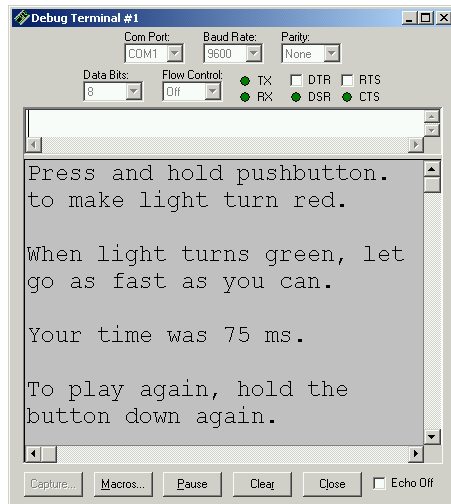

Figure 3-15
- √ Follow the prompts on the Debug Terminal (see Figure 3-15).